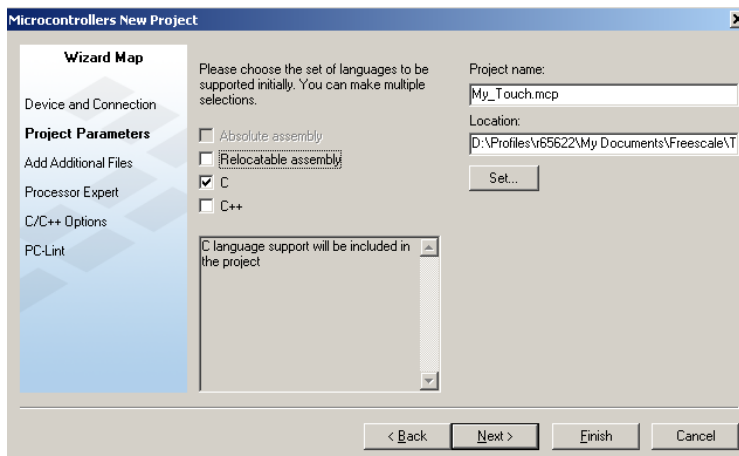

Figure 7. Microcontrollers New Project window—language support
5. Next, Figure 7. Make certain that the language support is C as shown. Click **Finish** when you are ready. This starts the project build process.